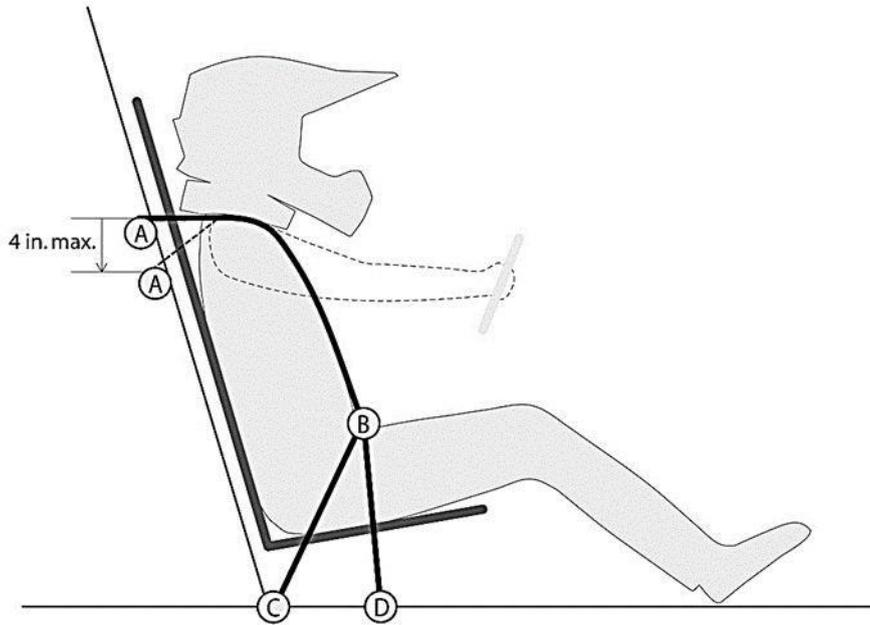

Figure B- 33: Driver Harness, Shoulder Harness Vertical Position
The shoulder belt mounting point (A) (see Figure B-33) shall be positioned no higher than vertical level with each driver’s shoulders, and no lower than 102 mm (4.0 in.) vertically below each driver’s shoulders.
Anti-submarine belts secured with eyebolts are explicitly prohibited. The webbing shall be wrapped per Figure B-33: Driver Harness, Diagram of Proper Wrapping of Webbing.